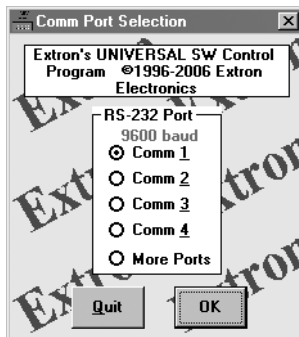

Figure 3-3 — Comm port selection window
- In the Comm Port Selection window (figure 3-3), click the comm port that is connected to the MSW's RS-232 port.